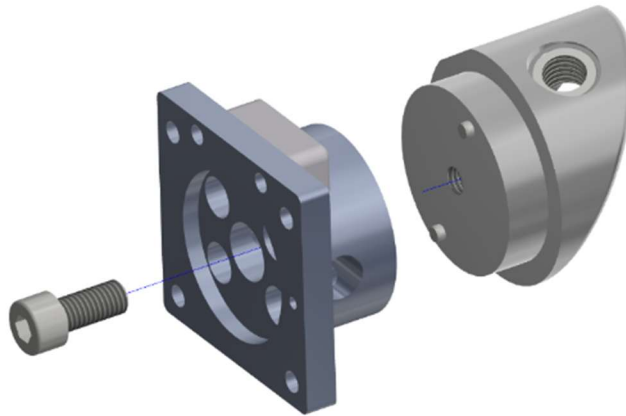

Figure 8-17. Separate the Acetabulum Load Cell from the Femur Mounting Socket (474-4003-1,2).
- 8.2.13 Separate the Acetabulum Load Cell from the Femur Mounting Socket (474-4003-1,2) by removing the M8 X 1.25 X18 LG. SHCS from the center of the Load Cell (Figure 8-17).